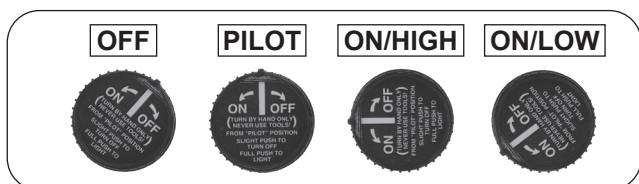
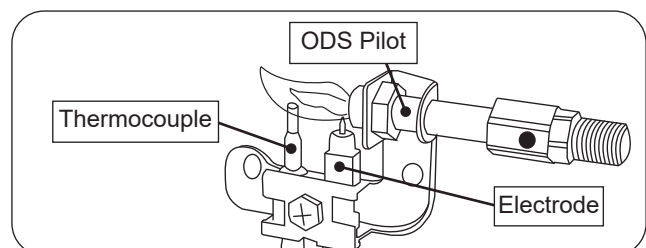

Fig. 24-1 Gas control knob positions
Fig. 24-2 ODS Pilot assembly detail
2. Locate the valve on the unit. Push in the gas control knob slightly and turn clockwise  to **OFF** (Fig. 24-1).
**Wait five (5) minutes to clear out any gas. Then smell for gas, including near the floor. If you smell gas, STOP! Follow "B" in the safety information above. If you do not smell gas, go to the next step.**
3. Locate the pilot assembly toward the center of the unit, near the main burner (see Fig. 24-2).
4. Push in the control knob slightly and turn counterclockwise  to the **PILOT** position. Push the knob **firmly and fully** in and hold. Push the piezo igniter button several times until the pilot lights. Continue to hold the knob in for about one (1) minute after the pilot is lit. Release the knob and it will pop back out. The pilot will remain lit. See Fig. 24-1 and 24-2. If it goes out, repeat steps 2-4.
1. Ensure the pilot is burning. Push in the control knob slightly and turn counterclockwise  to the **ON/HIGH** position (first stop past PILOT). See Fig. 24-1. The valve will open and the burner will light at maximum BTUs.
**To shut down the main burner (pilot will remain lit)**, push in the control knob slightly and turn clockwise  to the **PILOT** position (see Fig. 24-1).
**To shut down the burner and pilot (total shutdown)**, push in the control knob slightly and turn clockwise  to the **OFF** position (see Fig. 24-1).